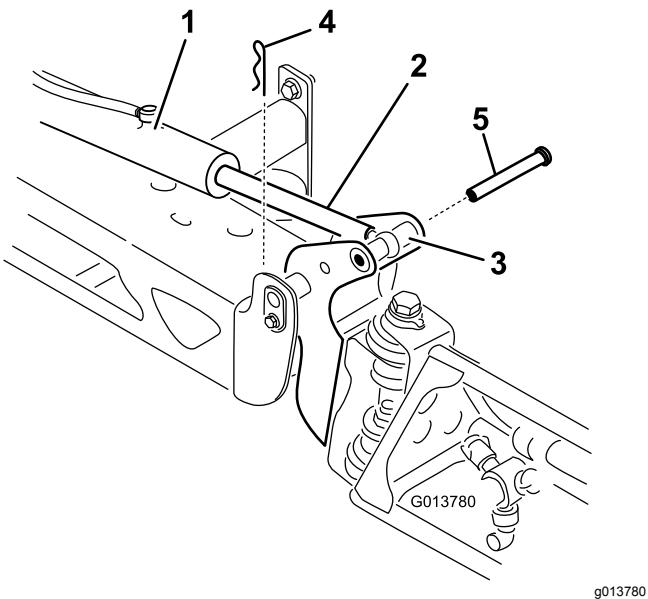

Figure 34
2. Remove the cotter pin from the pivot pin (Figure 34).
3. Lift up on the boom and remove the pin (Figure 34), and slowly lower the boom to the ground.
9. While holding the boom, insert the pin through both boom pivot and actuator rod (Figure 34).